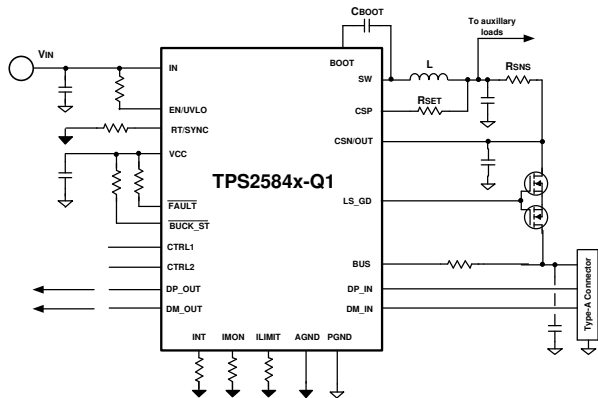

Figure 10-15. Current Limit With External MOSFET
- With external MOSFET Figure 10-15:
The TPS2584x-Q1 has integrated NFET gate drivers, and can support current limit with external NFET. Refer to Figure 10-15.